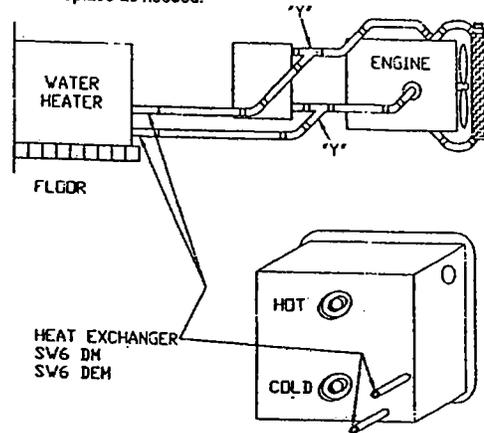

Figure 10
- Place copper "Y"s in heater as shown in Figure 10.